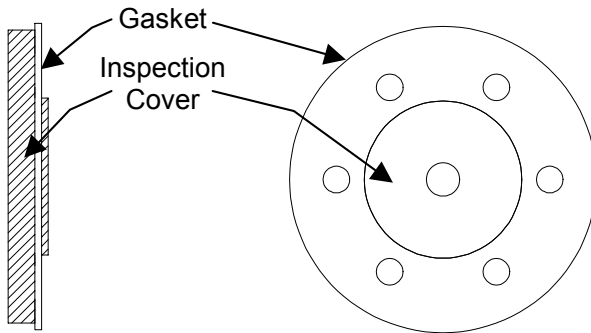
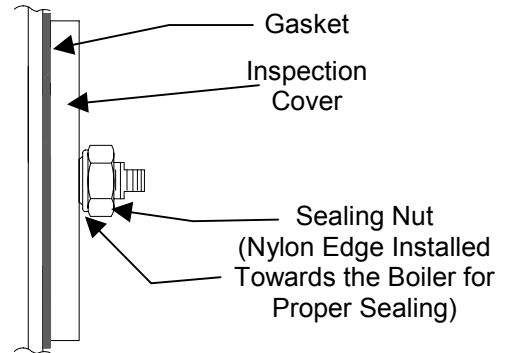

Figure 6 Gasket and Cover
Figure 7 Sealing Nut Direction
- 10) Place the gasket over the centering plug of the new inspection cover (See Figure 6). Place the inspection cover with the gasket side down, oriented as shown in Figure 6, onto the boiler brace bolt and start the sealing nut (gasket side down, see Figure 7) provided onto the bolt.
<p>In order for the sealing nut provided to properly seal, the nylon side of the nut must be installed against the inspection plate cover (see Figure 7).</p>
Note: If the nut bottoms out, and the assembly continues to leak even after the nut seems completely tight, DO NOT CONTINUE TO TIGHTEN. Turn OFF the main power switch, and allow the unit to cool. Remove the nut, and put a bead of high temperature silicone around the threads at the sealing surface. Reinstall the nut as shown in Figure 7. Repeat Steps 12 – 16.